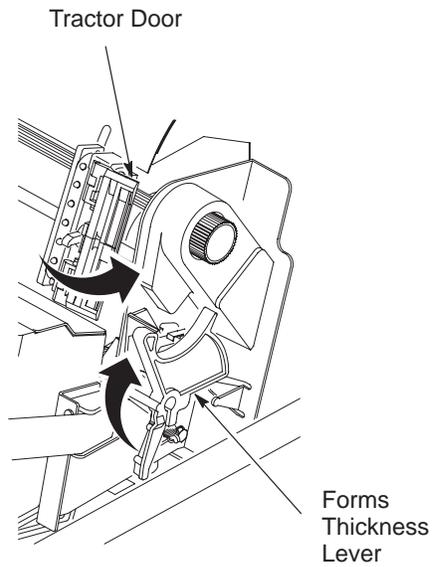

Figure 2–24. Forms Thickness Lever
2. Raise the forms thickness lever as far as it will go. (See Figure 2–24.)